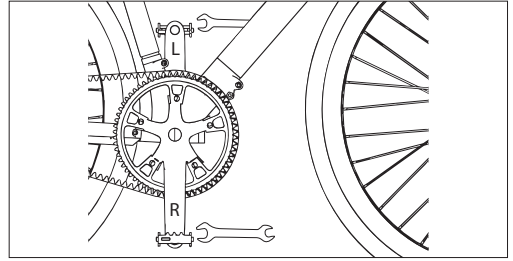

Figure 8-1
- Use the 15 mm wrench to mount the pedals, as shown in **Figure 8-1**.